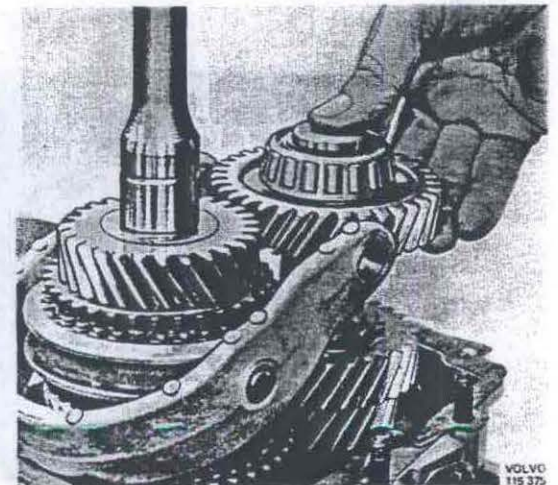

Fig. 43-114. Checking countershaft
14. Place a new gasket on the gearbox housing. Check that the countershaft is fitted properly, Fig. 43-114.